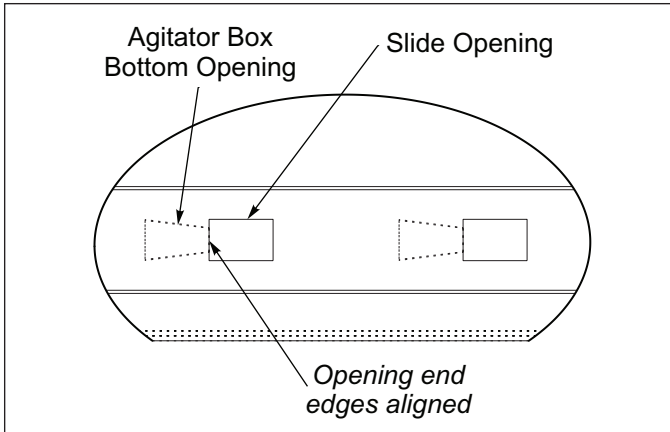

Figure 5-11: Shifter Handle Set at “0”
- When the Shifter Handle is set to “0” (closed), the Agitator Box bottom opening end edge is aligned with the Slide opening end edge. **See Figure 5-11.**